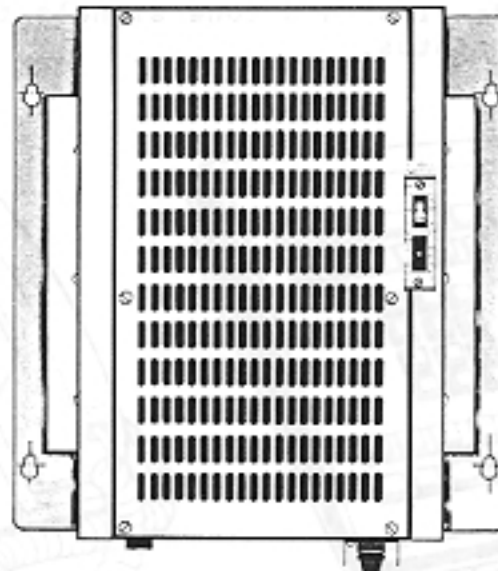

Figure 1-2 POWER SUPPLY, TCX-128
2.07 The power supplies (Figure 1-2) are separate units that are wall-mounted next to the KSU and expansion cabinet. They provide the DC power requirements for the TCX-128.